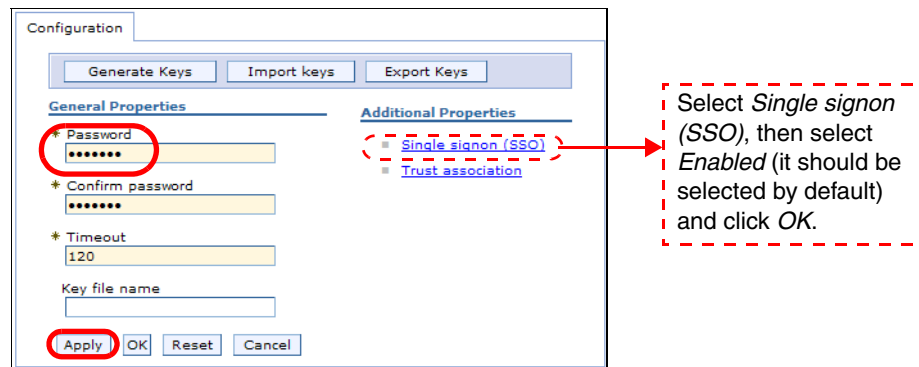

Figure 11-7 Authentication using LTPA
- Back in Global Security, select *Authentication mechanism* → *LTPA* under *Authentication* (right side). Enter the password wid twice and click *Apply* (Figure 11-7).